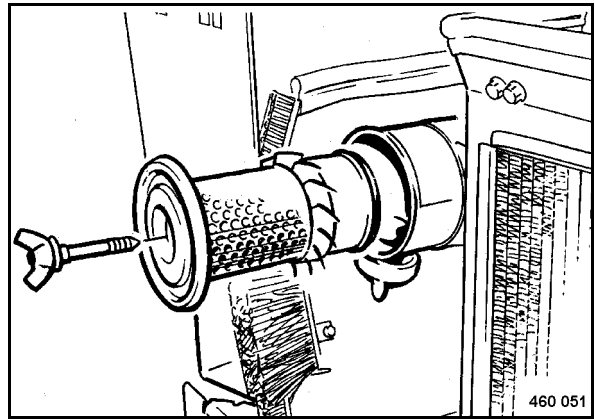

Fig. 136
- Before installation check the sealing faces on the dry air filter (Fig. 136).